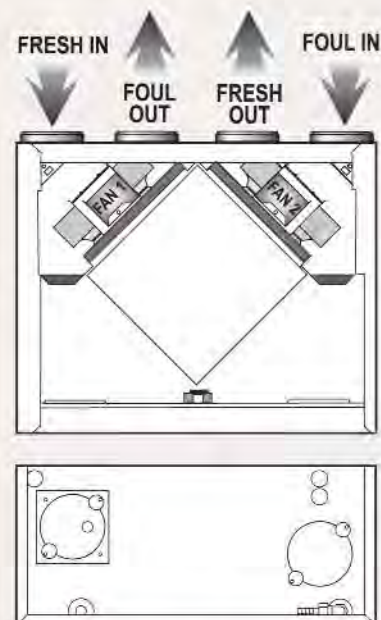

Figure 3
- 4.4.1 With reference to Figures 3 & 4 decide whether the unit is to be installed in the right of left handed configuration. If the handing of the unit is to be changed, proceed as follows:
- 6.1 Four 100/125mm nominal diameter spigots are provided for connection of the ducting (see paragraph 4.3). These must be connected to the supply and exhaust ducts according to left or right hand configuration (refer to Figures 3 & 4).